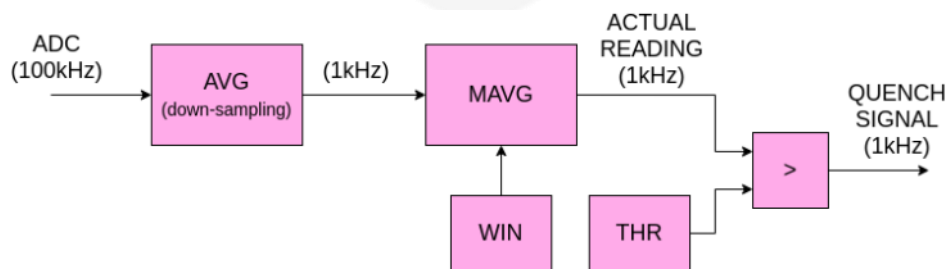

Figure 4: Signal processing block diagram
Figure 4 shows the digital elaboration of the acquired data. The analog reading from the four channels are converted into the digital domain by high-speed high-precision ADCs running at 100 kHz.
- verify that the “*Link LED*” on the RJ45 connector is turned on (amber for a 1 Gbps connection as shown in **Figure 4** or green for a 100 Mbps connection). The LED is turned off if the Ethernet cable is not connected or if the speed of connection is limited to 10 Mbps (in this last case the device is working correctly even if it is not recommended to use a slow connection since the data transfer rate is limited);